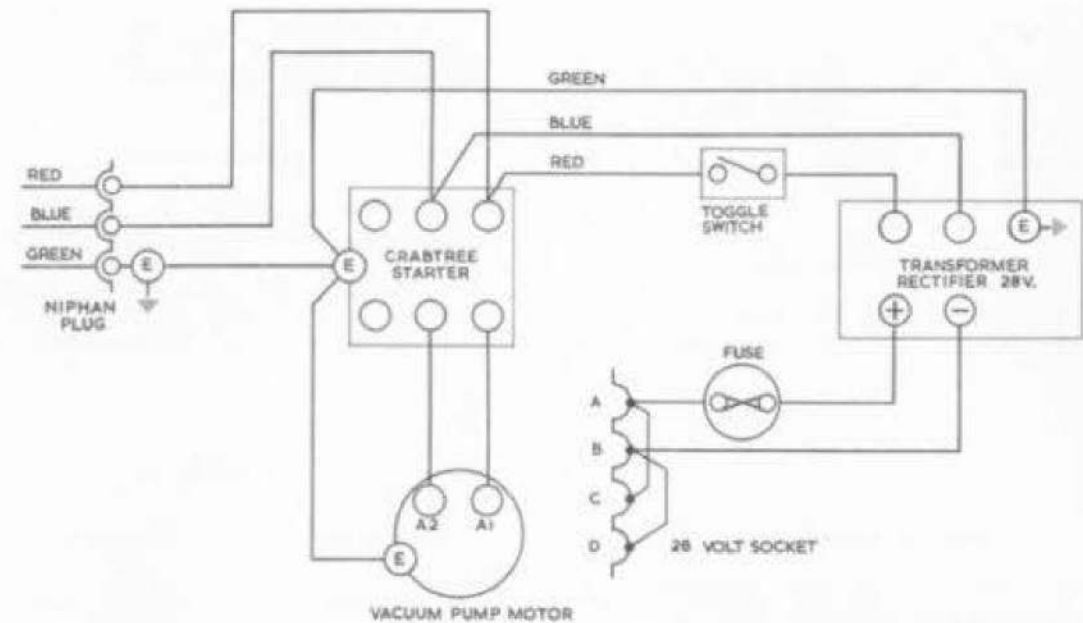

Fig.7A. Electrical circuit
17. A theoretical wiring diagram for the test rig is shown in fig.7A.